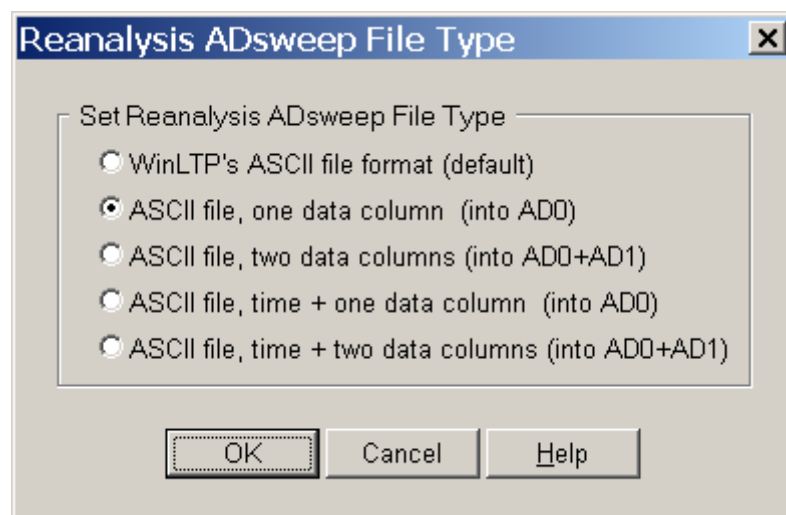

Fig. 15.20.1.2. The **Reanalysis ADsweep File Type** dialog box.
The WinLTP Reanalysis program can also reanalyze general ASCII ADsweep files (Fig. 15.20.1.1.). This figure shows the analysis of two EPSC Peak Amplitudes, and the patch electrode series resistance (R_s) and the cell input resistance (R_m). Because there is no stimulation information in a general ASCII ADsweep file, the WinLTP has to provide this stimulation information. It does this by using a 'stimulus template' and choosing the **source of stimulation information from Screen Fields** rather than the Disk File (see Section 15.5).
This calls up the **Reanalysis ADsweep File Type** dialog box (Fig 15.20.1.2). This allows you to change from the default WinLTP's ASCII file format (see Fig. 16.1.1) to 1) one data column ASCII, 2) two data columns ASCII, 3) a time column (on the left) plus one data column ASCII, or 4) a time column (on the left) plus two data columns ASCII.
Fig. 15.20.1.1. WinLTP reanalysis of general ASCII ADsweep files with or without a header. This figure shows the analysis of two EPSC Peak Amplitudes, Rs (by using capacitive transient peak), and Rm. The RsRm1 step is used to provide the timing for when the Rs/Rm stimulus pulse occurs. The Num Header Lines To Skip at the bottom of the Reanalysis Protocol section is used to skip the first 64 lines of this file header. This sweep has been low-pass digitally filtered.
1. Got to the Reanalysis Edit Protocol dialog box and set the **ADinterval** (in usec) at which the acquisition was obtained (right side of Fig. 15.20.1.3).
2. In the Reanalysis Edit Protocol dialog box set the **AD DataType Units** (usually mV or pA) for each column (e.g. AD channel) in the ASCII ADsweep file (left side of Fig. 15.20.1.3).
4. Set the Number of Header Lines to Skip (**NumHdrLines to skip** in Fig. 15.20.1.1)
Fig. 15.20.1.3. The simplified Edit Protocol dialog box used in the Reanalysis program when analyzing straight ASCII files (with or without a header). In addition to the AD0 and AD1 Data Type Units, Gain, Units/V and mV/Unit fields (see Fig. 15.4.2), the Reanalysis sweep sample interval field is also used.